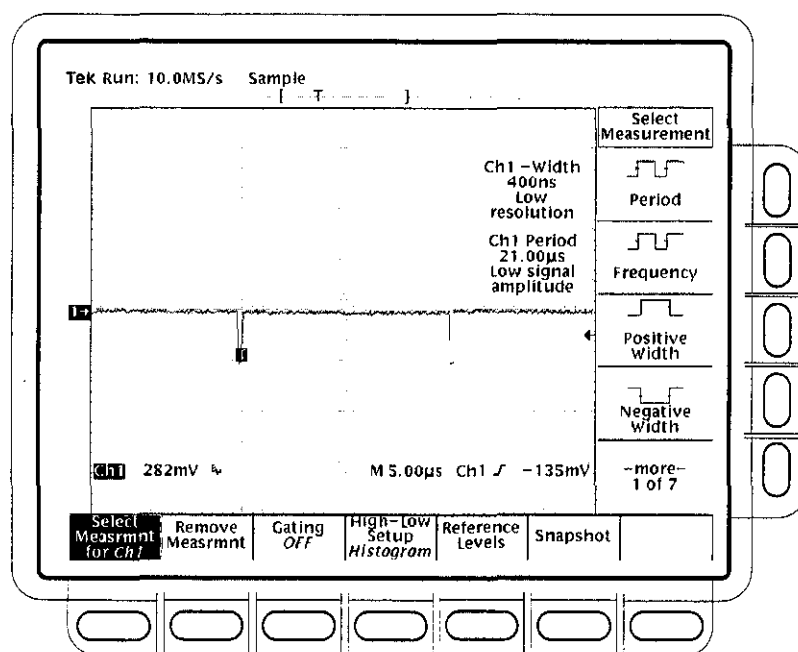

Figure 1-39: Sync Duty Cycle Test: Critically Adjusted Pulse
- Turn the pulse generator **PERIOD** variable control to adjust the period until the oscilloscope **CH1 Period** measurement reads **21.000μs -25/+50 ns**. See Figure 1-39. Read note shown below.